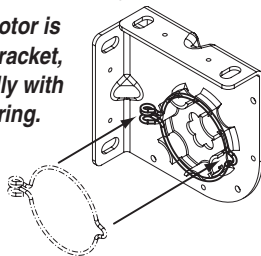

Figure 2
- ① Remove screw from the motor retainer ring.
- ② Install the motor retainer ring into the groove in the motor end bracket (see Fig. 2). Do not re-install the screw yet.